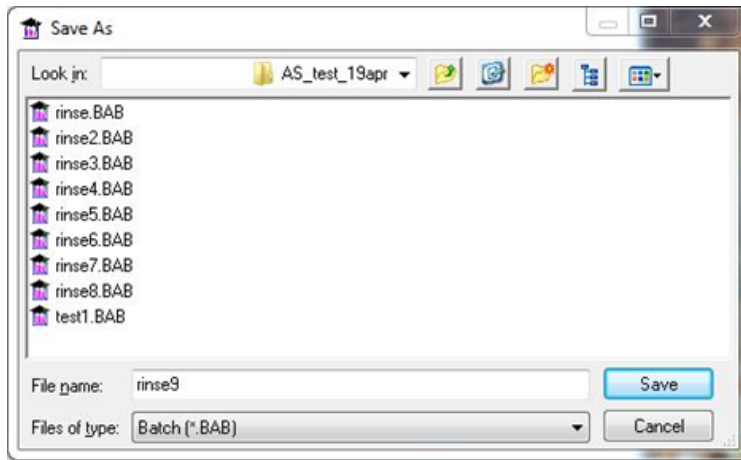

Figure 13 : Assigning a filename for the results
- Save the data to a file for later viewing (Figure 13).